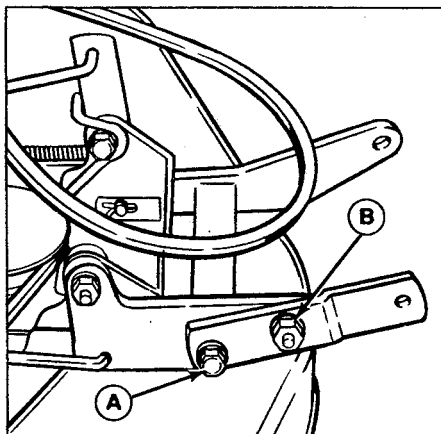

Figure 32. Mower Hitch (shown removed from tractor)
4. Loosen the capscrew and flange nut in right mower hitch (figure 32).
6. Retighten the capscrew (A, figure 32) and flange nut (B). Torque capscrew (A) to 50 ft. lbs. Torque nut (B) to 65 ft. lbs. *If torque wrench is not available, tighten snug and 3/4 turn tighter.*